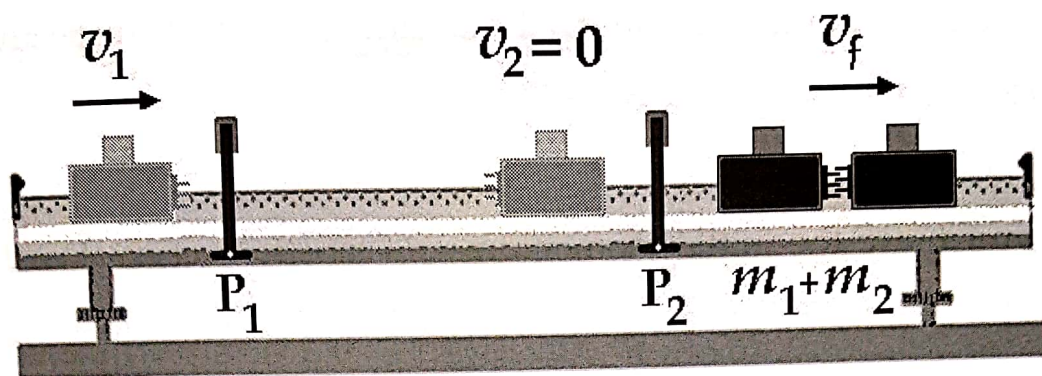

Figure 6.4: Completely inelastic collision between two carts.
1. Place photogates P_1 and P_2 at approximately 20 cm and 40 cm, respectively, from the left end of the track. See Figure 6.4 above.